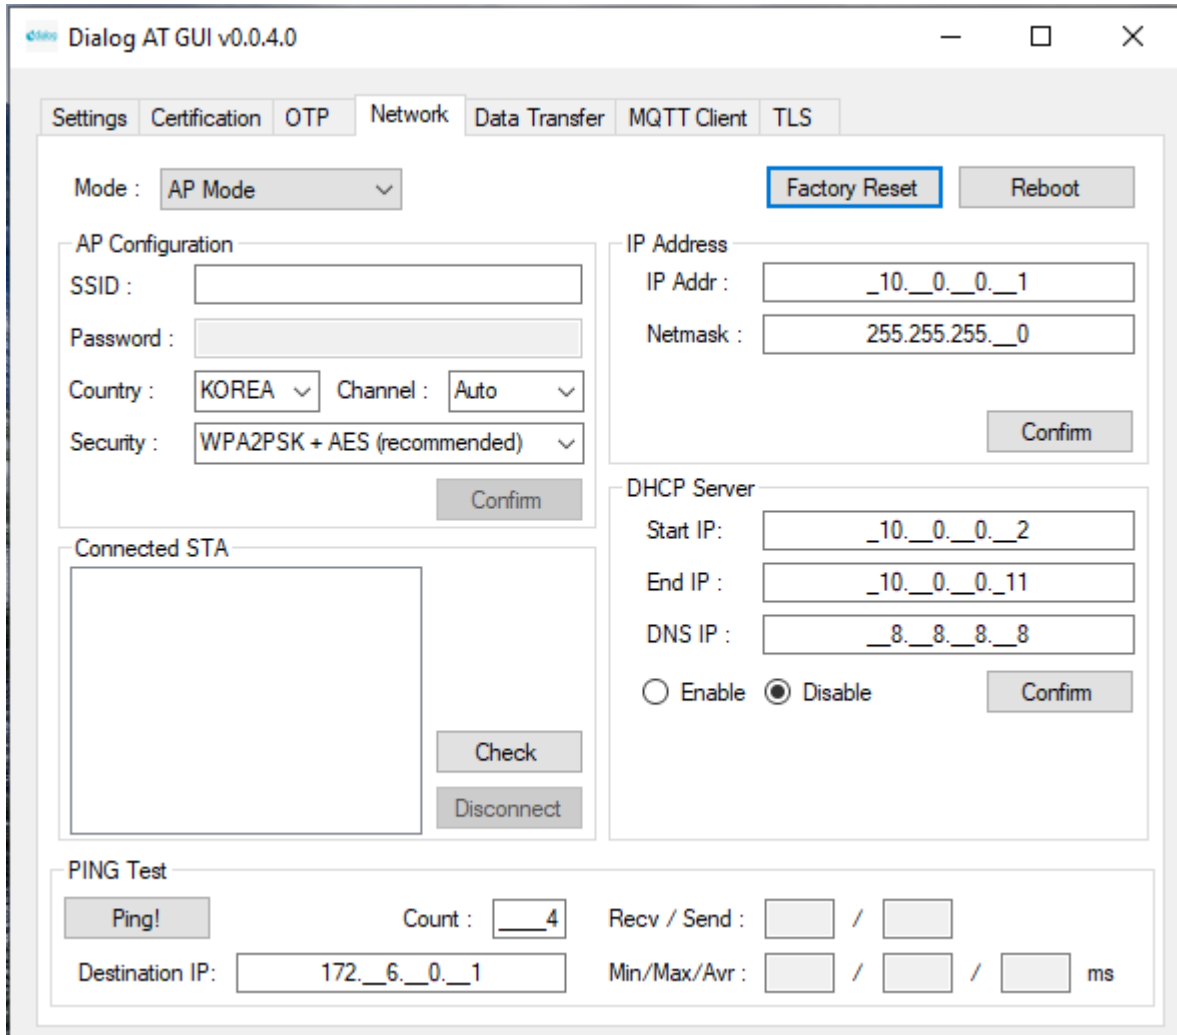

Figure 19: Setup Window – AP Mode
- The network mode changes, DA16200 reboots and the AP Mode setup window opens. See Figure 19